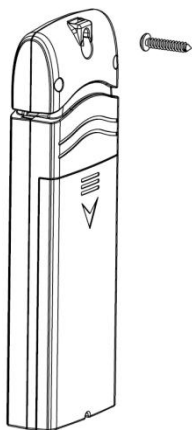

Figure 6
1. Use a screw or nail to affix the remote sensor to the wall, as shown in Figure 6.